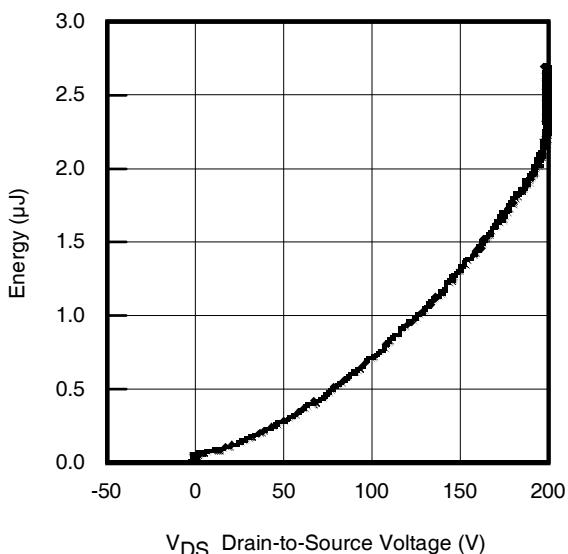

Fig 11. Typical Coss Stored Energy
| $C_{oss \text{ eff. (ER)}}$ | Effective Output Capacitance (Energy Related) ⑥ | — | 113 | — | | $V_{GS} = 0V, V_{DS} = 0V$ to $160V$ ⑥ (See Fig.11) |